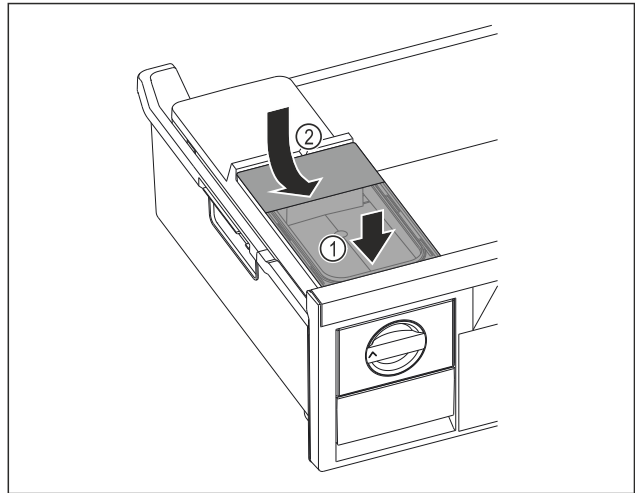

Fig. 77
- ▶ Position the water tank at the front. Fig. 77 (1)
- ▶ Lower the water tank at the rear. Fig. 77 (2)